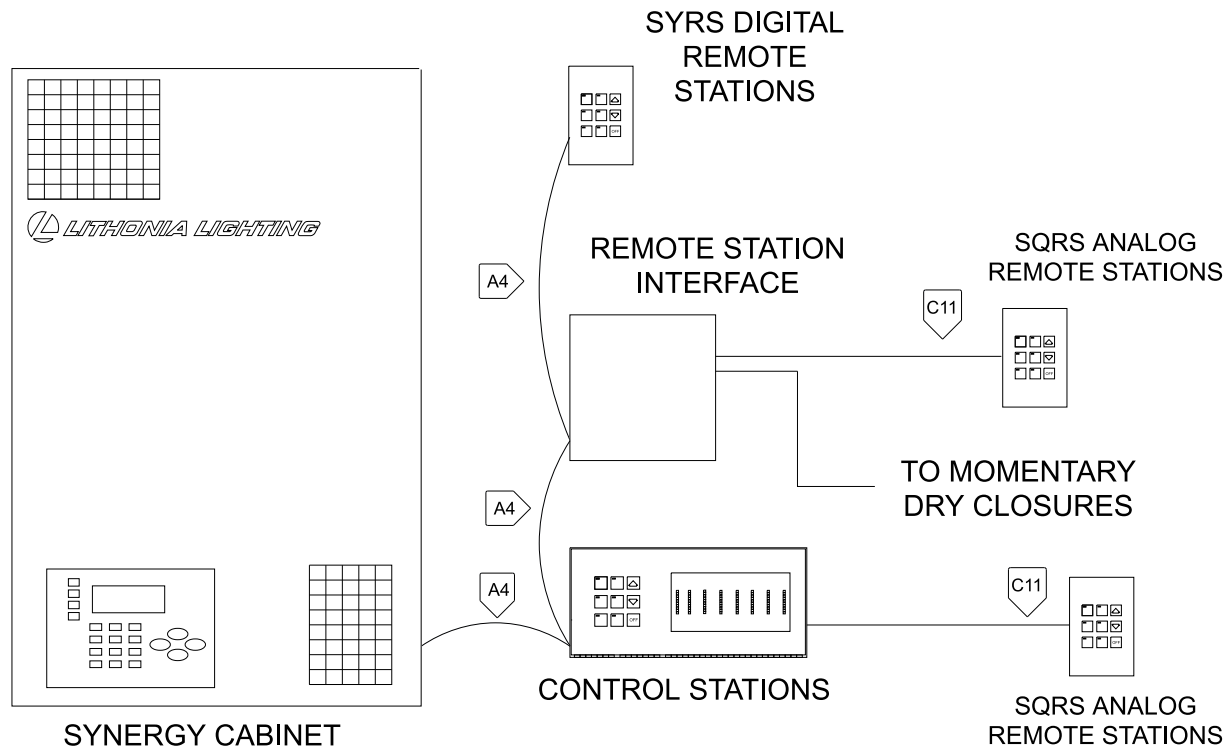
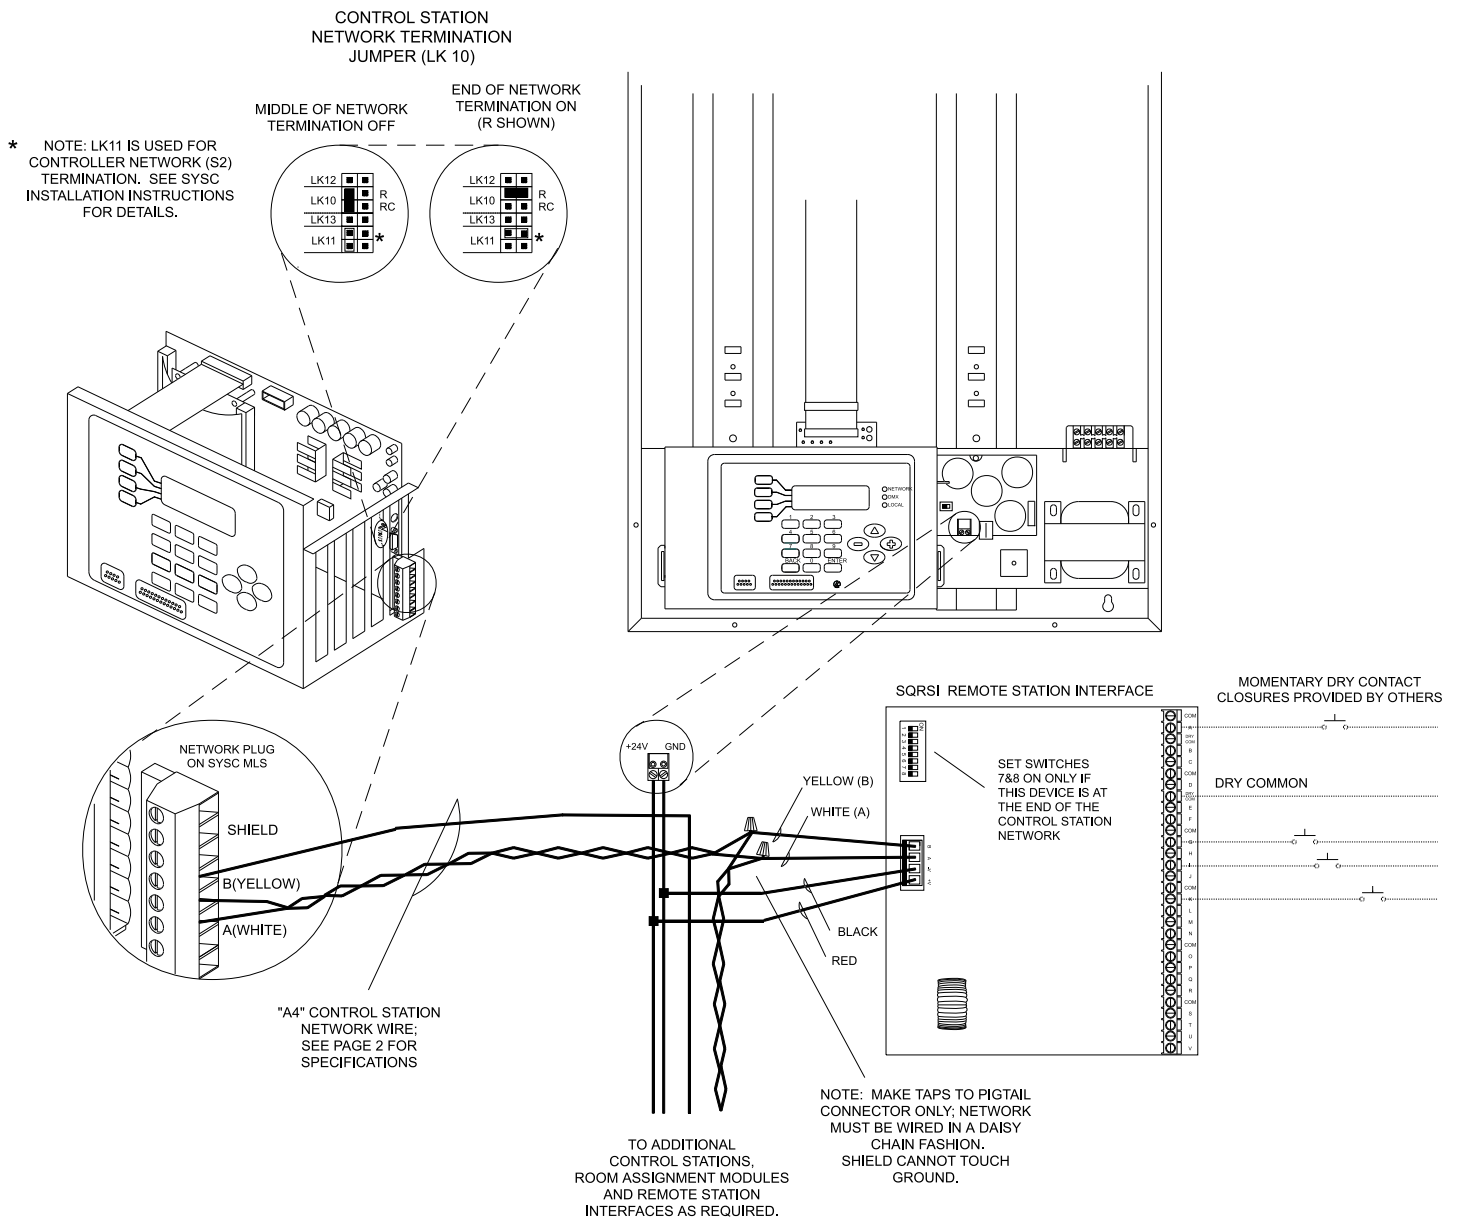

Figure 2 - Typical One Line
Figure 3 - Synergy Control Station Network - Typical Wiring
1. The interface connects to the control station network which must be wired in a daisy chain. See figure 2.
2. Remote stations or contact closures home run to this interface. Refer to figure 2 for typical one line diagram. Refer to figures 3 - 8 for typical remote wiring.
3. Refer to As Built drawings for SQRSI dip switch settings, and detailed remote wiring information. If As Built drawings were not provided refer to figures 3 - 8 for wiring, dip switch settings, and remote terminal function information.